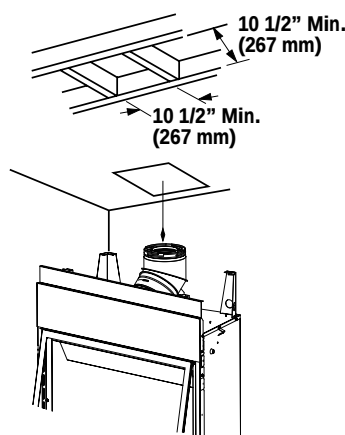

Figure 14
C. Frame ceiling opening - Use a plumb line from the ceiling above the appliance to locate center of the vertical run. Cut and/or frame an opening, 10-1/2" x 10-1/2" (267mm x 267mm) inside dimensions, about this center mark (**Figure 14**).
E. Frame ceiling opening - If the vertical route is to penetrate a ceiling, use plumb line to locate the center above the appliance. Cut and/or frame an opening, 10-1/2" x 10-1/2" (267 mm x 267 mm) inside dimensions, about this center (refer to **Figure 14 on page 11**).